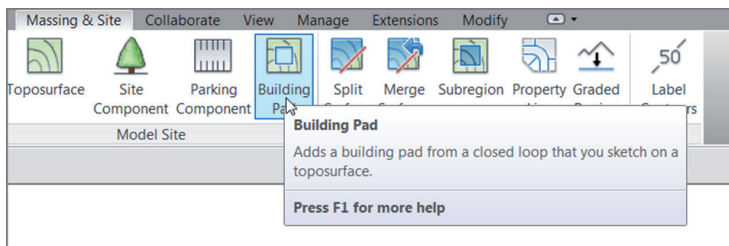

FIGURE BC3.21: The Building Pad button
2. On the Massing & Site tab, click the Building Pad button, as shown in Figure BC3.21.